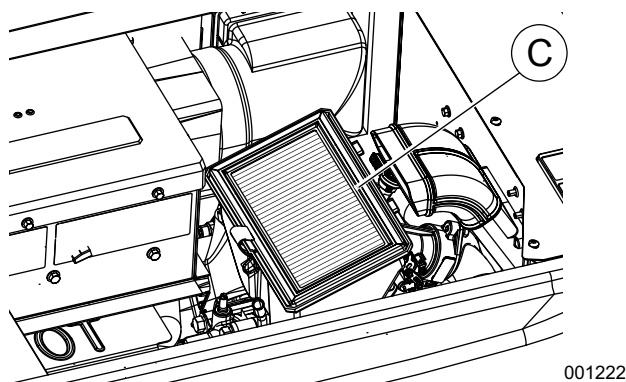

Figure 4-4. Removing the Air Filter
3. See Figure 4-4. Pull out the old air filter (C) and discard.